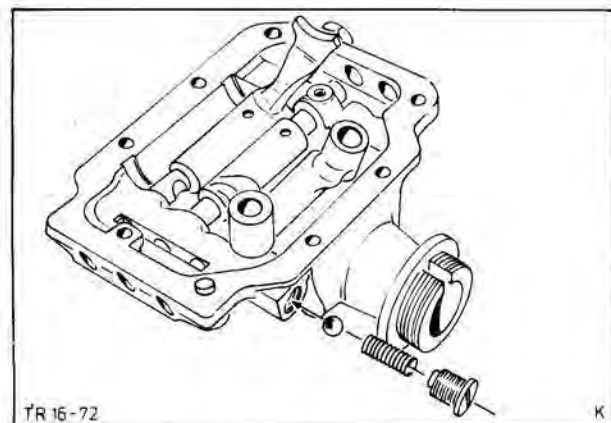

Fig. 123. Insert spring and ball of 1st/2nd gear selector rail
- Always bring all selector rails to neutral position after installing, Fig. 123.